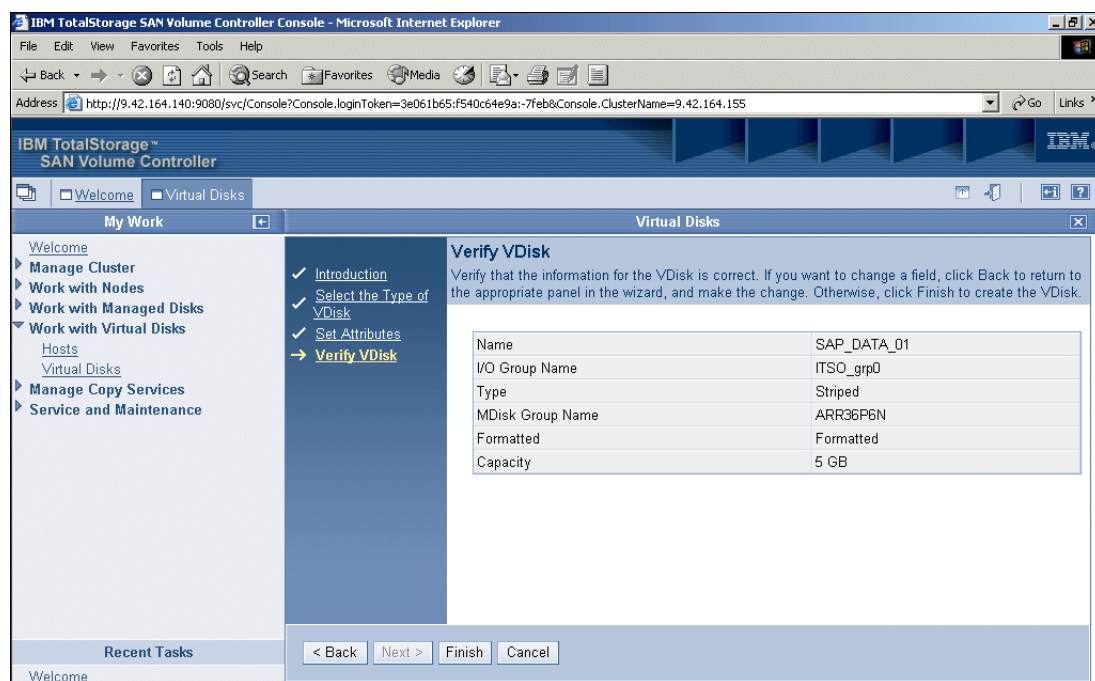

Figure 9-66 Creating a vDisk wizard: Verifying the information
- On the Verify vDisk panel (Figure 9-66), if you are satisfied with the information shown, click **Finish** to complete the task. Otherwise, click **Back** to return and make any corrections.